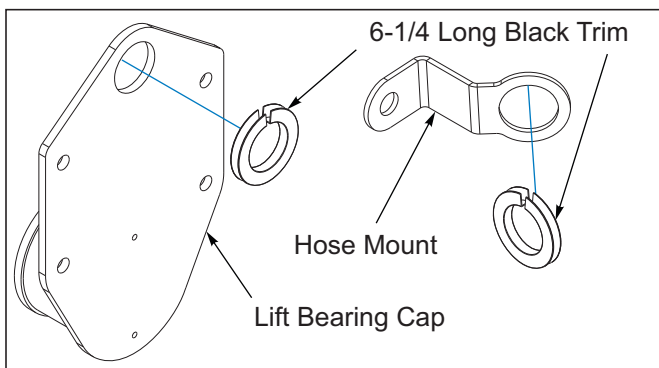

Figure 3-10: Trim Installation
8. Install a 6-1/4" long piece of black trim in the top hole of the lift bearing caps. Outer wing bearing caps do not require trim. Install a 6-1/4" long piece of black trim in the hole of the hose mounts **See Figure 3-10**. Route lift hydraulic hoses through bearing caps between frame sections **See Figure 3-10**.